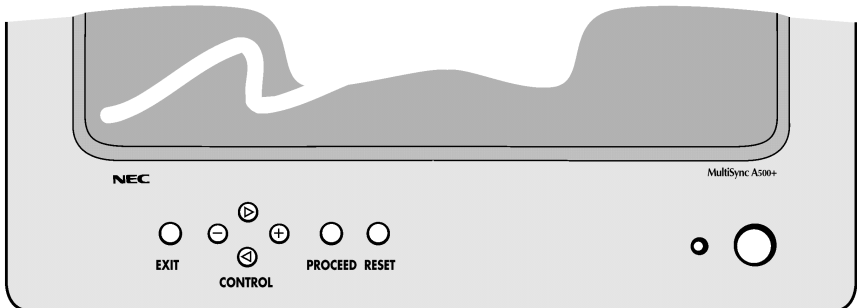

Figure D.1
5. Turn on the monitor (Figure D.1) and the computer.